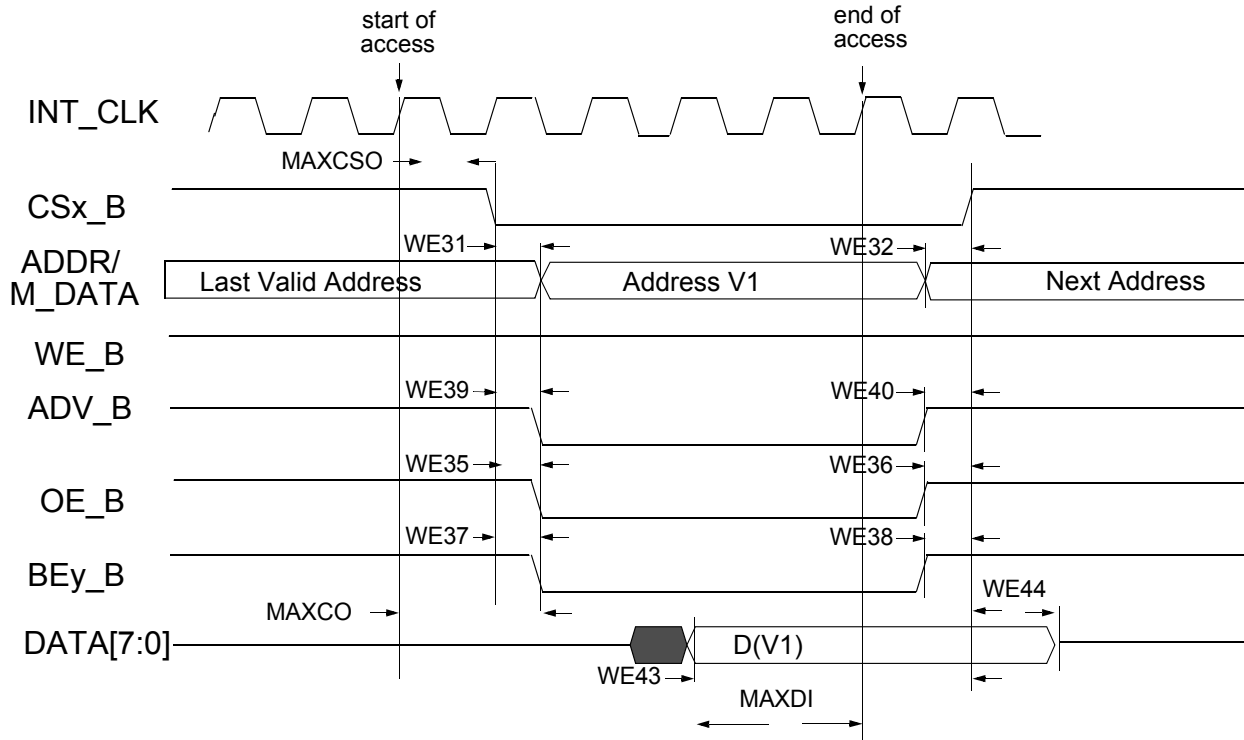
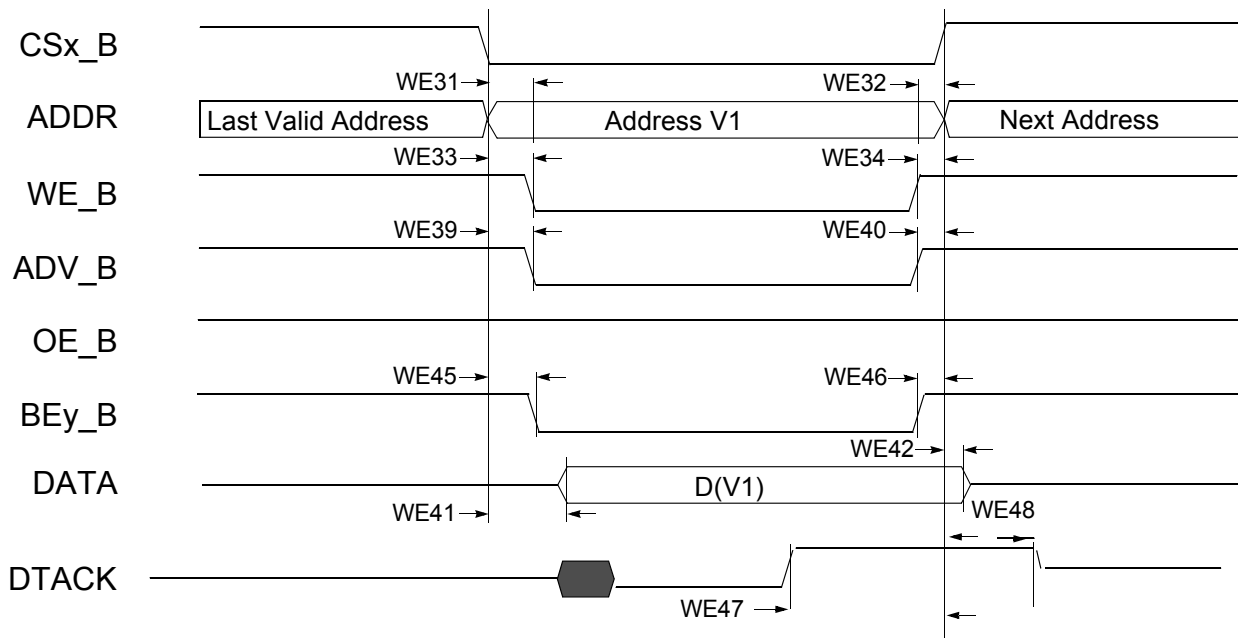

Figure 22. Asynchronous Memory Read Access (RWSC = 5)
Figure 27. DTACK Write Access (DAP=0)
Figure 22 through Figure 27, and Table 40 help to determine timing parameters relative to the chip select (CS) state for asynchronous and DTACK EIM accesses with corresponding EIM bit fields and the timing parameters mentioned above.
Asynchronous read and write access length in cycles may vary from what is shown in Figure 22 through Figure 25 as RWSC, OEN, and CSN is configured differently. See i.MX53 reference manual for the EIM programming model.